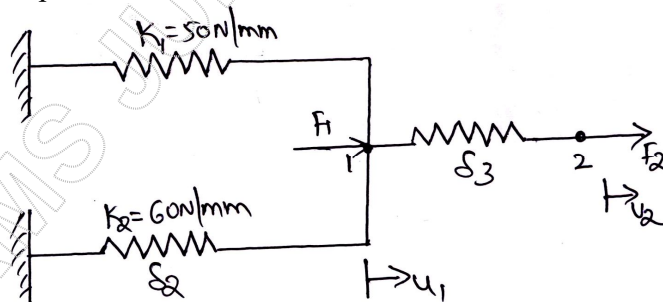

Fig.Q3(a)
- 4 a. For the spring shown in Fig.Q3(a) using the principle of minimum potential energy, determine the nodal displacement. Take $F_1 = 75\text{N}$ and $F_2 = 100\text{N}$.